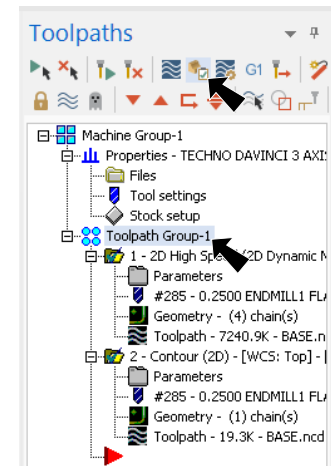
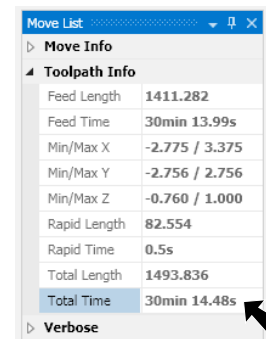

Fig. 62
Fig. 63
Step 1. Click **Toolpath Group-1** in the Toolpaths Manager to select **Dynamic Mill** and **Contour** toolpaths, **Fig. 62**.
Step 2. Click **Verify**  in the Toolpaths Manager, **Fig. 62**.
Step 3. Click **Play**  (R) in VCR bar.
Step 4. Note **Total Time** to run program under Toolpath Info in the Move List panel (**roughly 30 minutes**), **Fig. 63**.